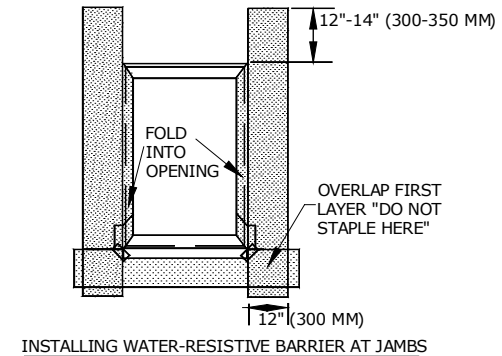

Fig 11.6
- Fit flashing into rough opening jams. Install jamb flashing making sure bottom leg overlaps sill flashing. (Fig. 11.6).